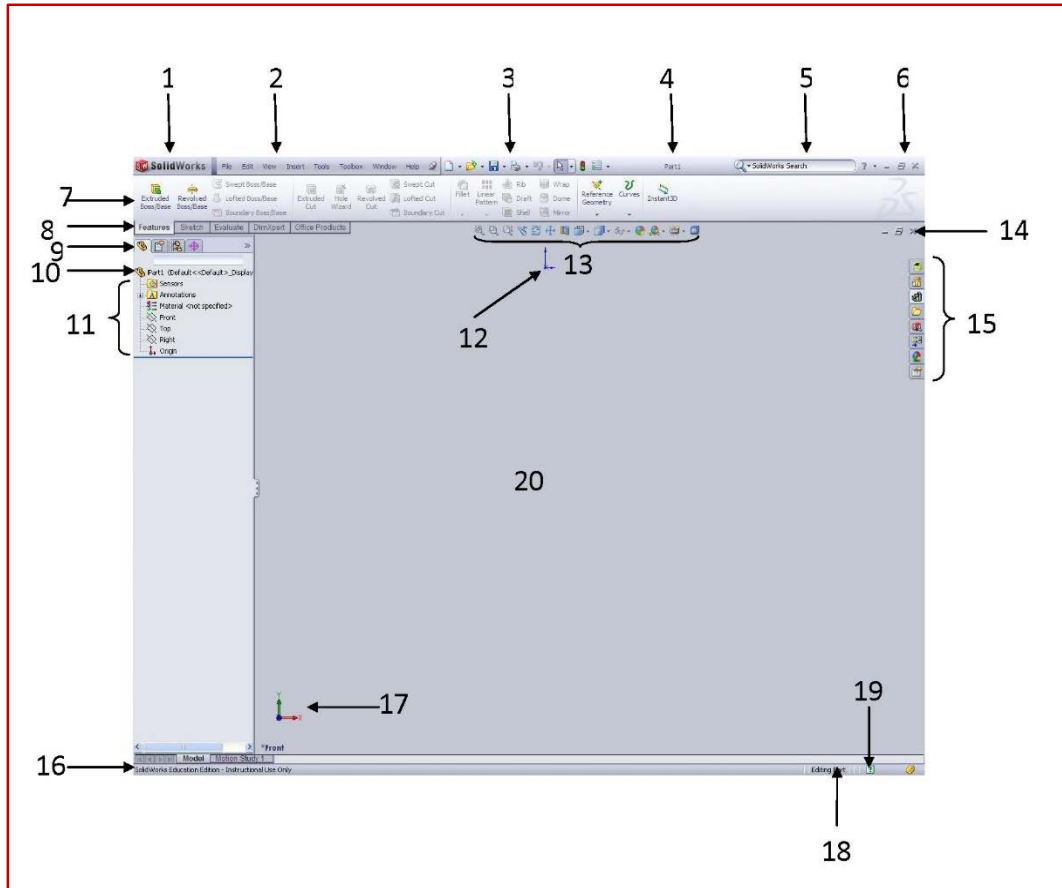

Figure 1.4 – SolidWorks Desktop for a New Part Document
Step 3: When you open a new **Part** document you get additional toolbars and pull-down menus as shown in Figure 1.4.